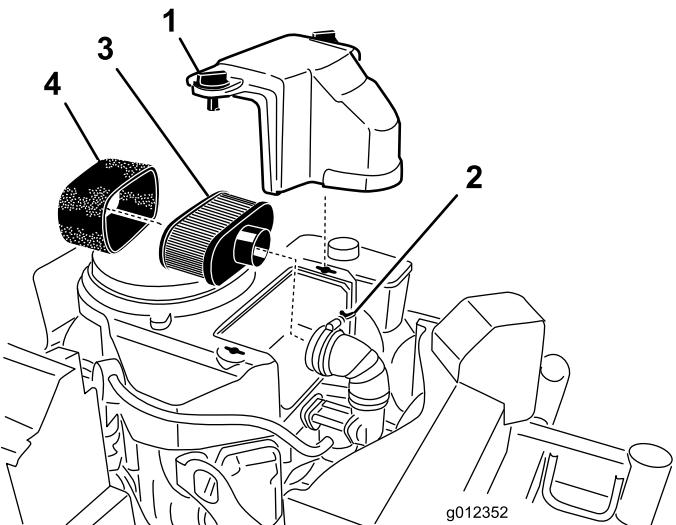

Figure 19
3. Clean around the air cleaner to prevent dirt from getting into the engine and causing damage (Figure 19).
4. Unscrew the cover knobs and remove the air cleaner cover (Figure 19).
5. Unscrew the hose clamp and remove the air cleaner assembly (Figure 19).
6. Carefully pull the foam element off the paper element (Figure 19).
1. Do not clean the paper filter, replace it (Figure 19).
1. Carefully slide the foam element onto the paper air cleaner element (Figure 19).
2. Place the air cleaner assembly onto the air cleaner base and secure it with the 2 wing nuts (Figure 19).
3. Place the air cleaner cover into position and tighten the cover knob (Figure 19).